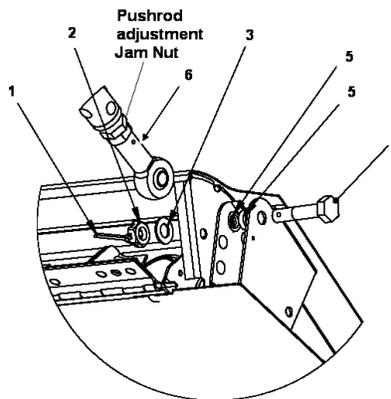

Figure 27-11 Pushrod to Aileron Connection
3. Refer to Figure 27-11. Remove split pin (1) and discard. Remove nut (2), washer (3) and bolt (4) securing end of pushrod (6) to inboard end of aileron, noting position of spacers (5).